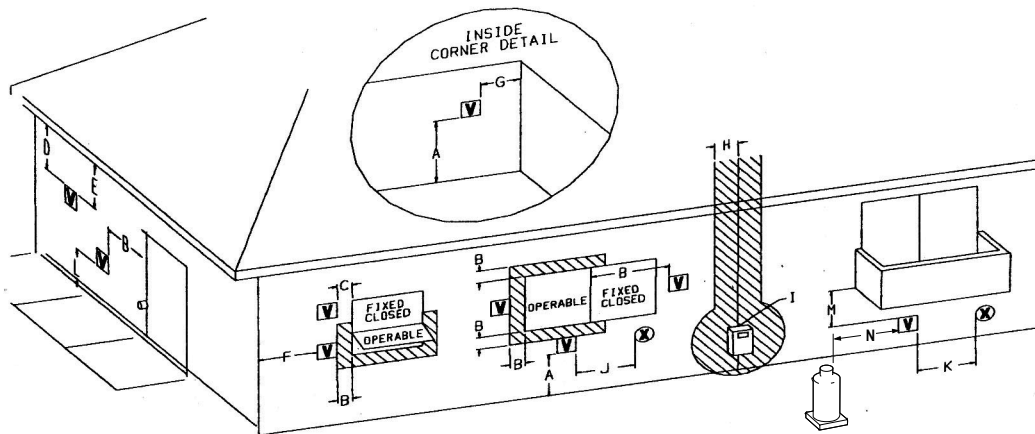

Figure 19. Vent Terminal Clearances, Canada and United States
- Follow all termination clearance guidelines as specified in fig. 19.